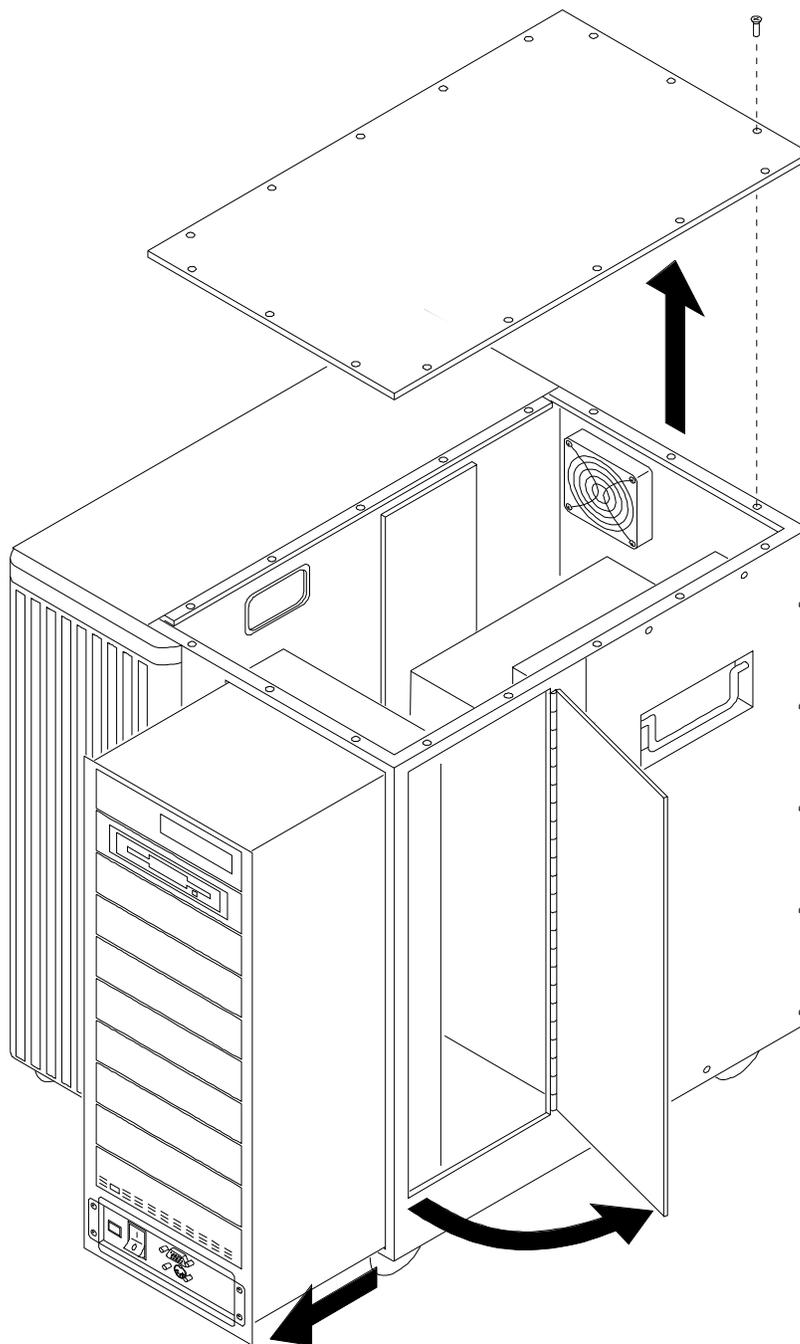

Figure 7-7. Peripheral Bay Fan Location
The peripheral bay fan is located in the rear of the MAP/100 behind the power supply (Figure 7-7).
5. Remove the top access panel (Figure 7-7).